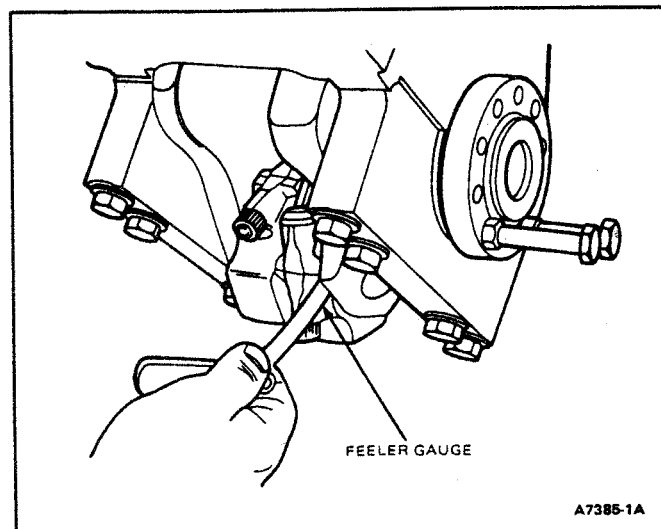

FIG. 78 Checking Connecting Rod End Clearance
6. Check connecting rod end clearance using feeler gauge Tool D81L-4201-A as shown in Fig. 78. Excessive clearance may require replacement of rods or shaft. Check should be made to make certain specified running clearance exists. Lack of clearance could indicate damaged rod or rod bearing out of position.